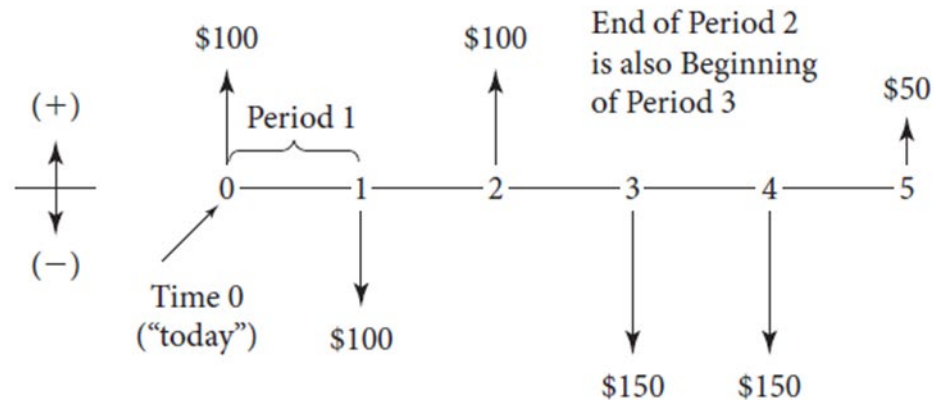

FIGURE 1-7 An example of a cash flow diagram (CFD).
- Look at Figure 1-7 and the \$100 positive cash flow at the end of Period 2